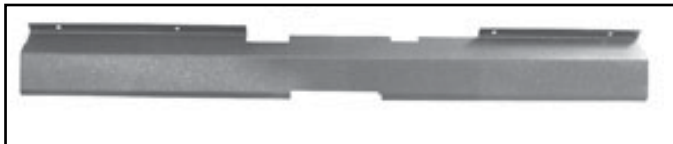

Figure 36.2 Access Cover
3. Remove 2 screws and take off access cover. Figure 36.2.